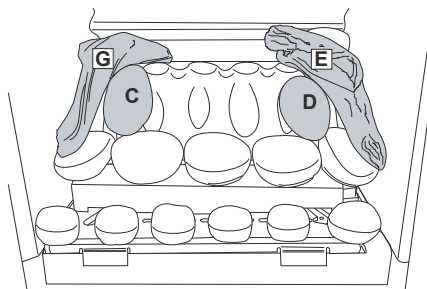

Figure 33
5. Place the **G** and **E** driftwood pieces as shown in **Figure 33** then place the **C** and **D** pebbles (**G** driftwood is not marked).